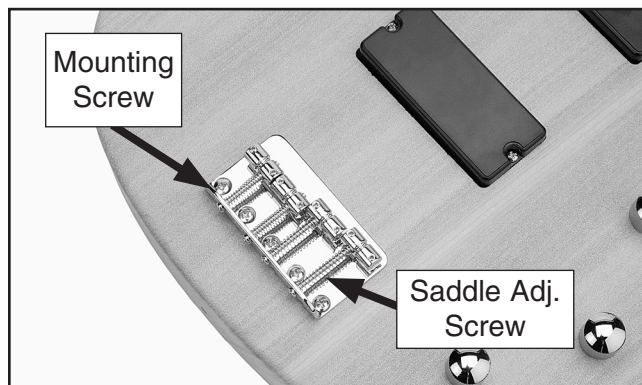

Figure 22. Bridge installed.
3. Secure the bridge with the #4 x 1" screws, as shown in **Figure 22**, making sure the saddle adjustment screw heads point away from the neck.